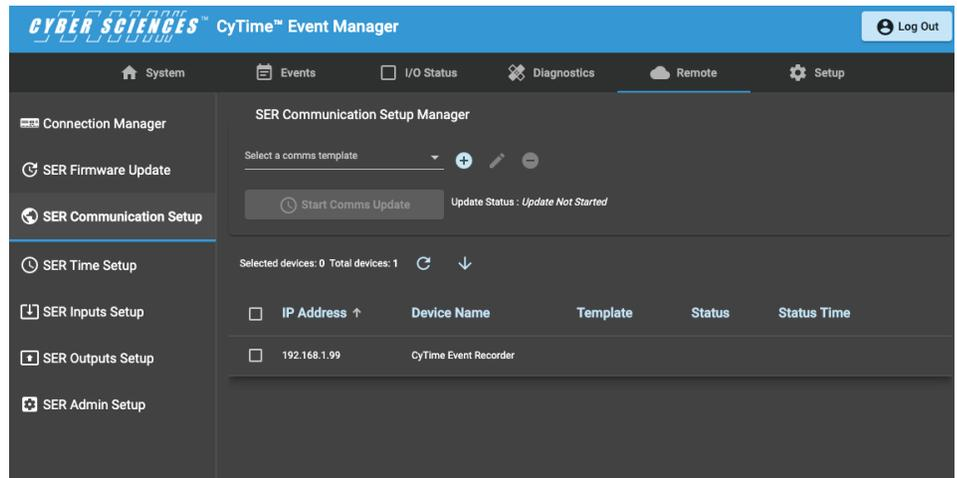

Figure 31. SER Communication Setup Page
**Step 1:** To begin, click the (+) button at the top of the window. A dialogue will open named ‘Create Comms Template’. (Figure 31)